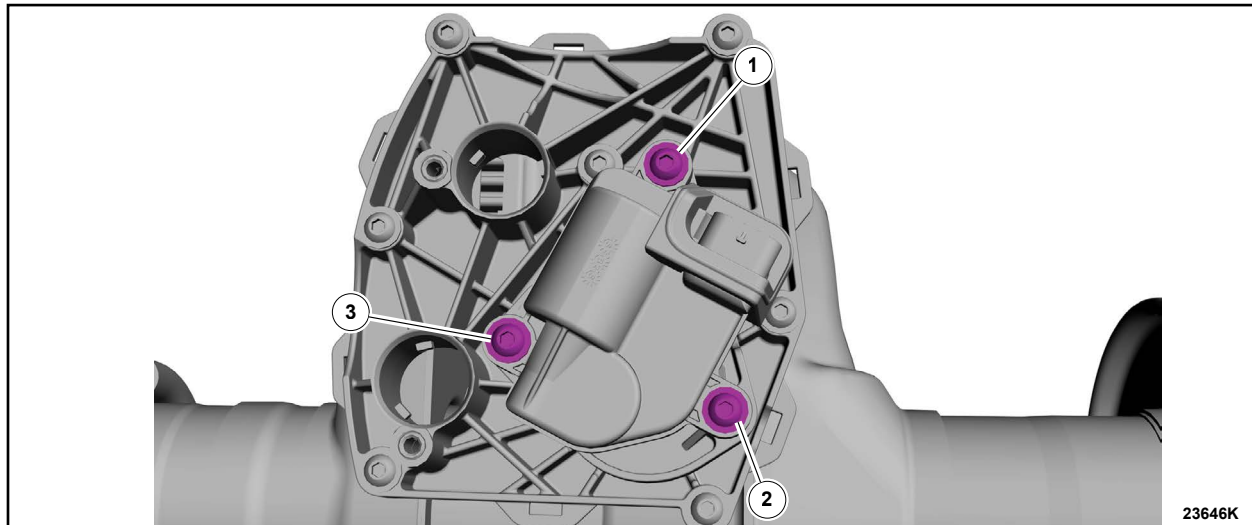

FIGURE 10
10. Torque the bolts in the sequence shown. See Figure 10.